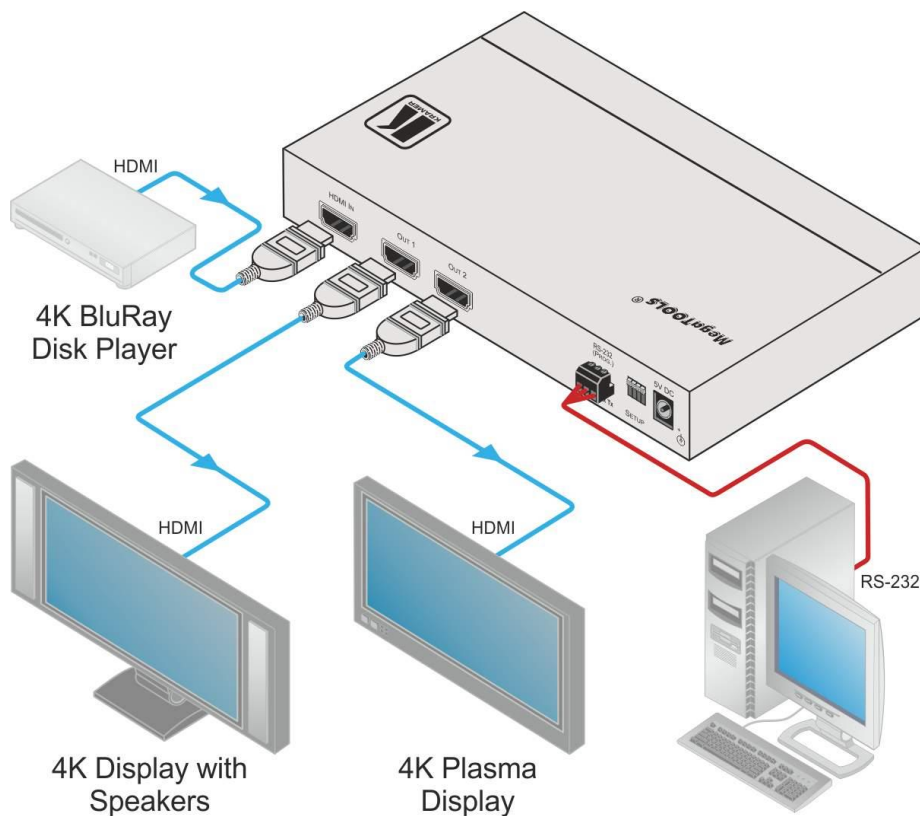

Figure 2: Connecting the VM-2H2 4K HDMI 2.0 1:2 DA
To connect the **VM-2H2**, as illustrated in the example in Figure 2, do the following:
- 3. Connect the 5V DC power adapter to the power socket unit and then connect the adapter to the mains electricity (**not shown in Figure 2**).